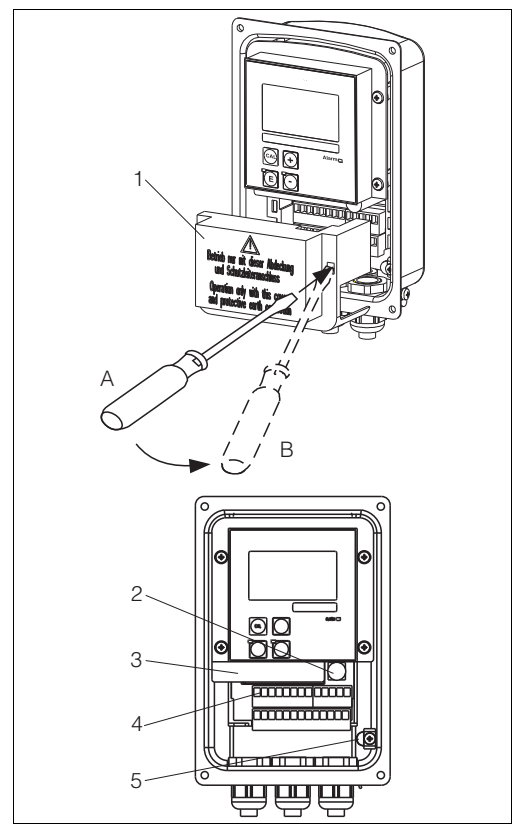

Fig. 18: View of housing with cover removed
Remove the cover frame from the terminal blocks. To do this, introduce a screwdriver in the recess (A) according to Fig. 18 and push the tab inward (B).